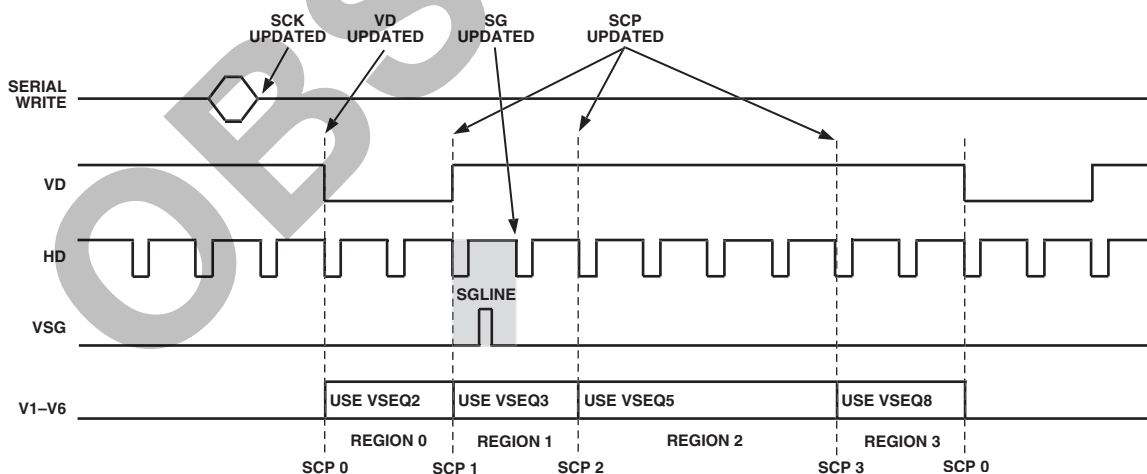

Figure 42. Register Update Locations (See Table XV for Definitions)
- SCP Updated:** In Bank 2, all of the V-pattern group and V-sequence registers (Addr. 0x00 through 0xCF, excluding 0x7F) are updated at the next SCP, where they will be used. For example, in Figure 42, this field has selected Region 1 to use V-Sequence 3 for the vertical outputs. This means that a write to any of the V-Sequence 3 registers, or any of the V-pattern group registers that are referenced by V-Sequence 3 will be updated at SCP1. If multiple writes are done to the same register, the last one done before SCP1 will be the one that is updated. Likewise, register writes to any V-Sequence 5 registers will be updated at SCP2, and register writes to any V-Sequence 8 registers will be updated at SCP3.